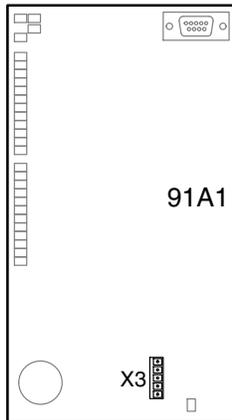

Fig. 3-16
8. Insert the light tower plug into X3 of the I/O board (Refer to Fig. 3-16).
9. Use a cable tie to fasten the cable to one of the metal teeth (5) below the bracket *Cable duct*.